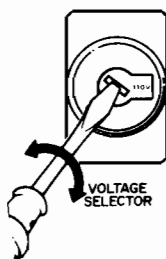

Fig. 1
- 2) Turn the Voltage Selector located on the rear panel with a screwdriver until the correct voltage is indicated. (Refer to Fig. 1)